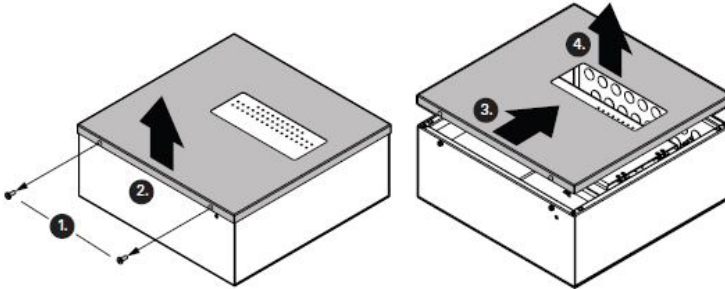

Figure 11. Remove NX16US front panel
2. To remove the front panel, remove the screws as shown in Figure 11, step 1.
3. Lift the front panel from the bottom (step 2) and push back (steps 3 and 4) to disengage the clips as shown in Figure 11.